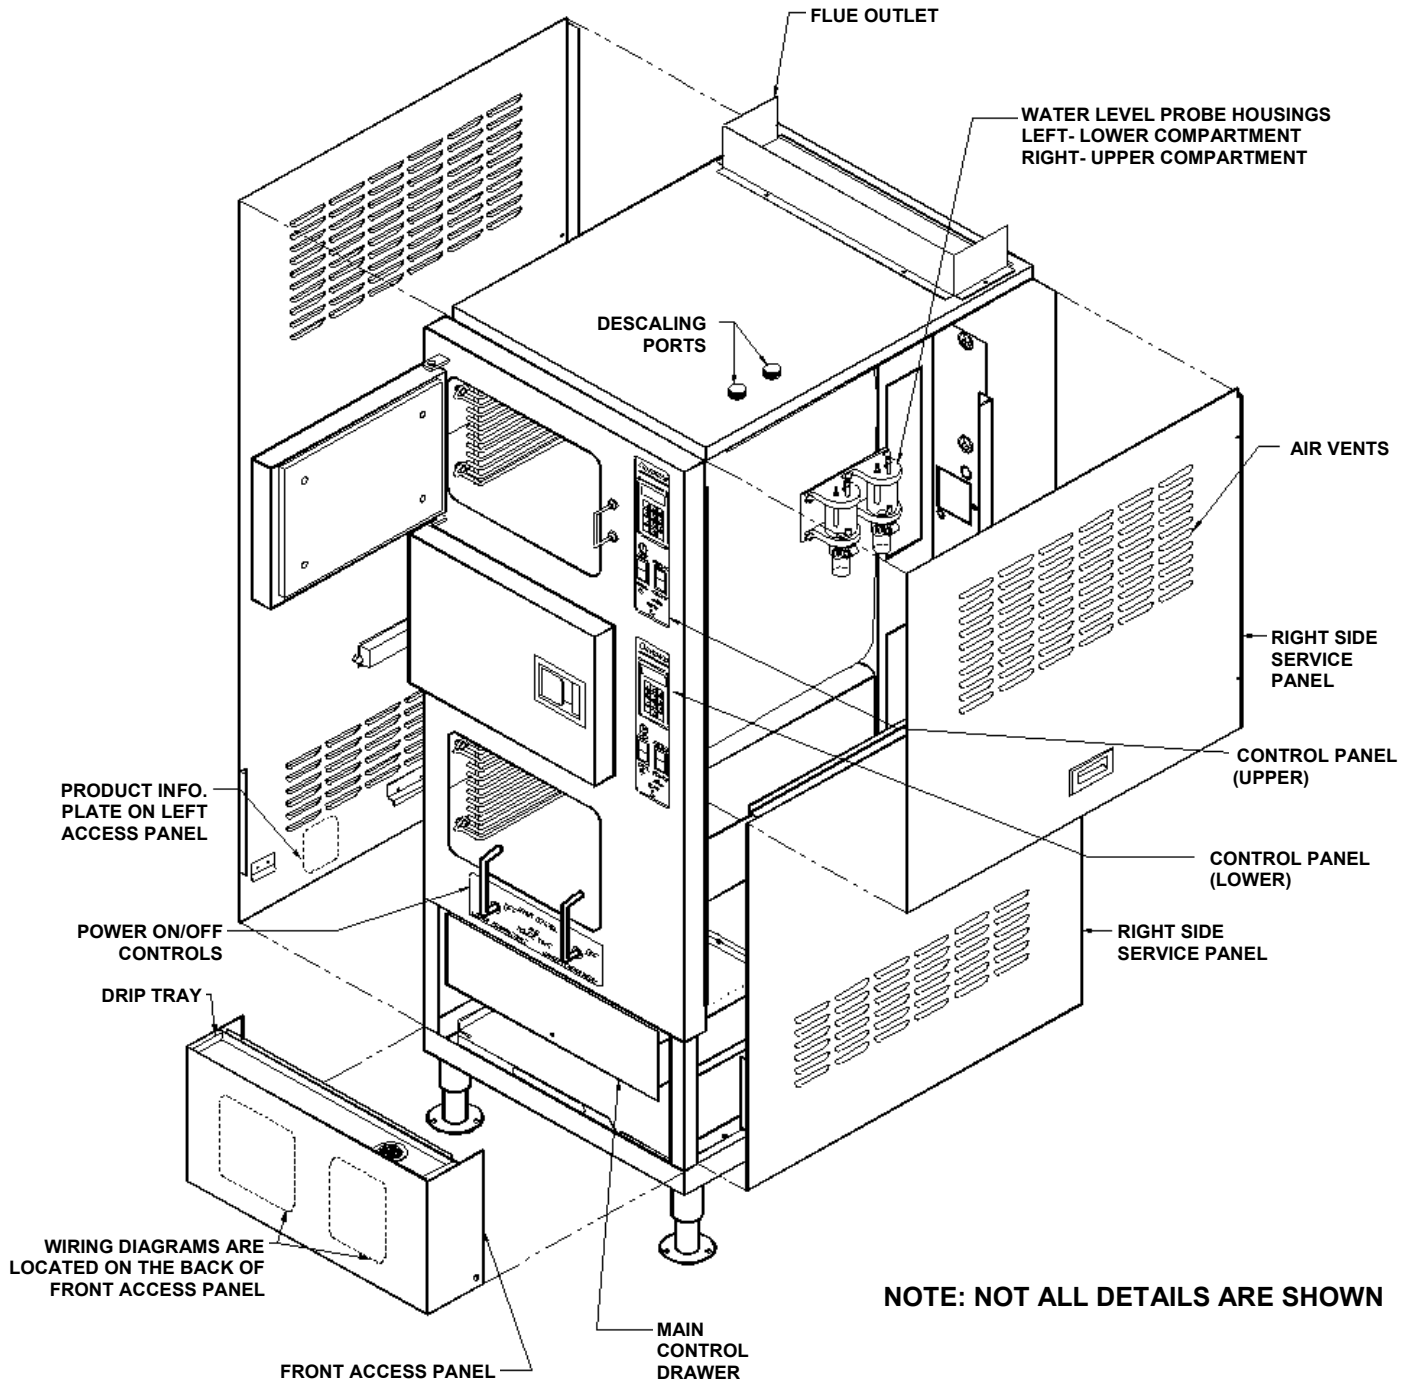

Figure 1-2. Gemini 6-Pan Dual Atmospheric Steam Generator and Convection Steamer
Other than selection of options, there are presently no significant design, parts, or operating differences among steamers with this model number. Figures 1-2 and 1-3 illustrate the two Gemini designs of gas fired steamers and identifies their major components.
The Product Information Plate on the left side of the unit lists the model and serial number of the steamer. Refer to Figures 1-2 and 1-3 for the location of the plate. Figure 1-1 illustrates a typical Gemini Product Information Plate. The rating plate also lists power and wiring requirements.
- g. Refer to Figure 1-2 or 1-3 depending on Model. Connect the drain to the steamer as described below: